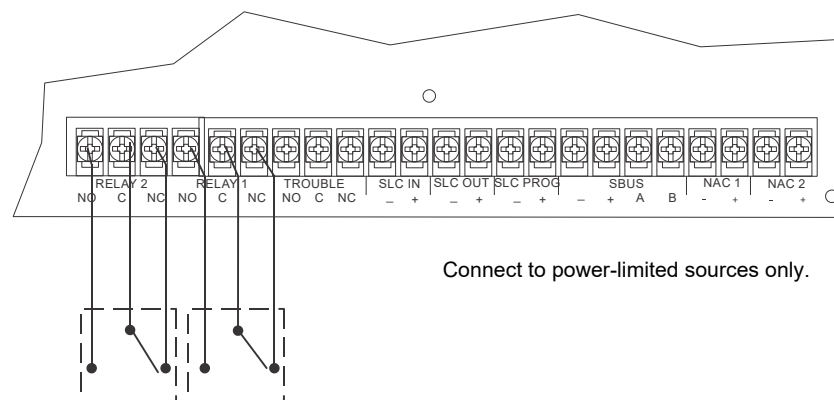

Figure 4.43 Location of Conventional Relay Circuits
1. Wire Relay 1 and/or Relay 2 as needed for your application. See Figure 4.43 for the location of the relay terminals.